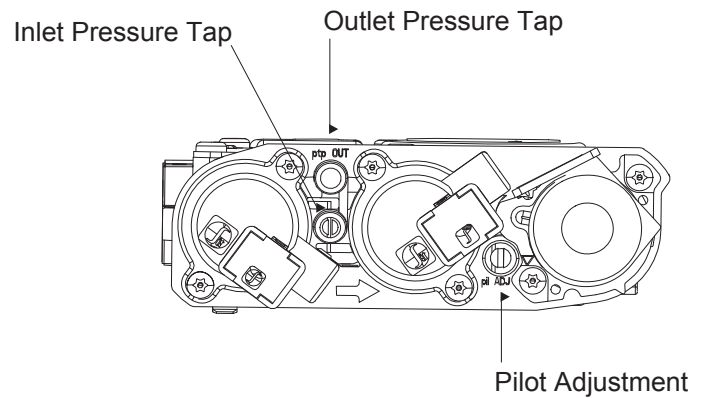

Figure 13 - Gas Pressure Check at Gas Valve
We recommend that you install a sediment trap/drip leg in supply line as shown in Figure 13. Locate sediment trap/drip leg where it is within reach for cleaning. Install in piping system between fuel supply and burner system. Locate sediment trap/drip leg where trapped matter is not likely to freeze. A sediment trap traps moisture and contaminants. This keeps them from going into the burner system gas controls. If sediment trap/drip leg is not installed or is installed wrong, burner system may not run properly.
4. To check gas pressures at valve, turn captured screw counter clockwise 2 or 3 turns and then place tubing to pressure gauge over test point. Turn unit to high. See *Figure 13*. After taking pressure reading, be sure and turn captured screw clockwise firmly to reseal. Do not over torque. Check test points for gas leaks.